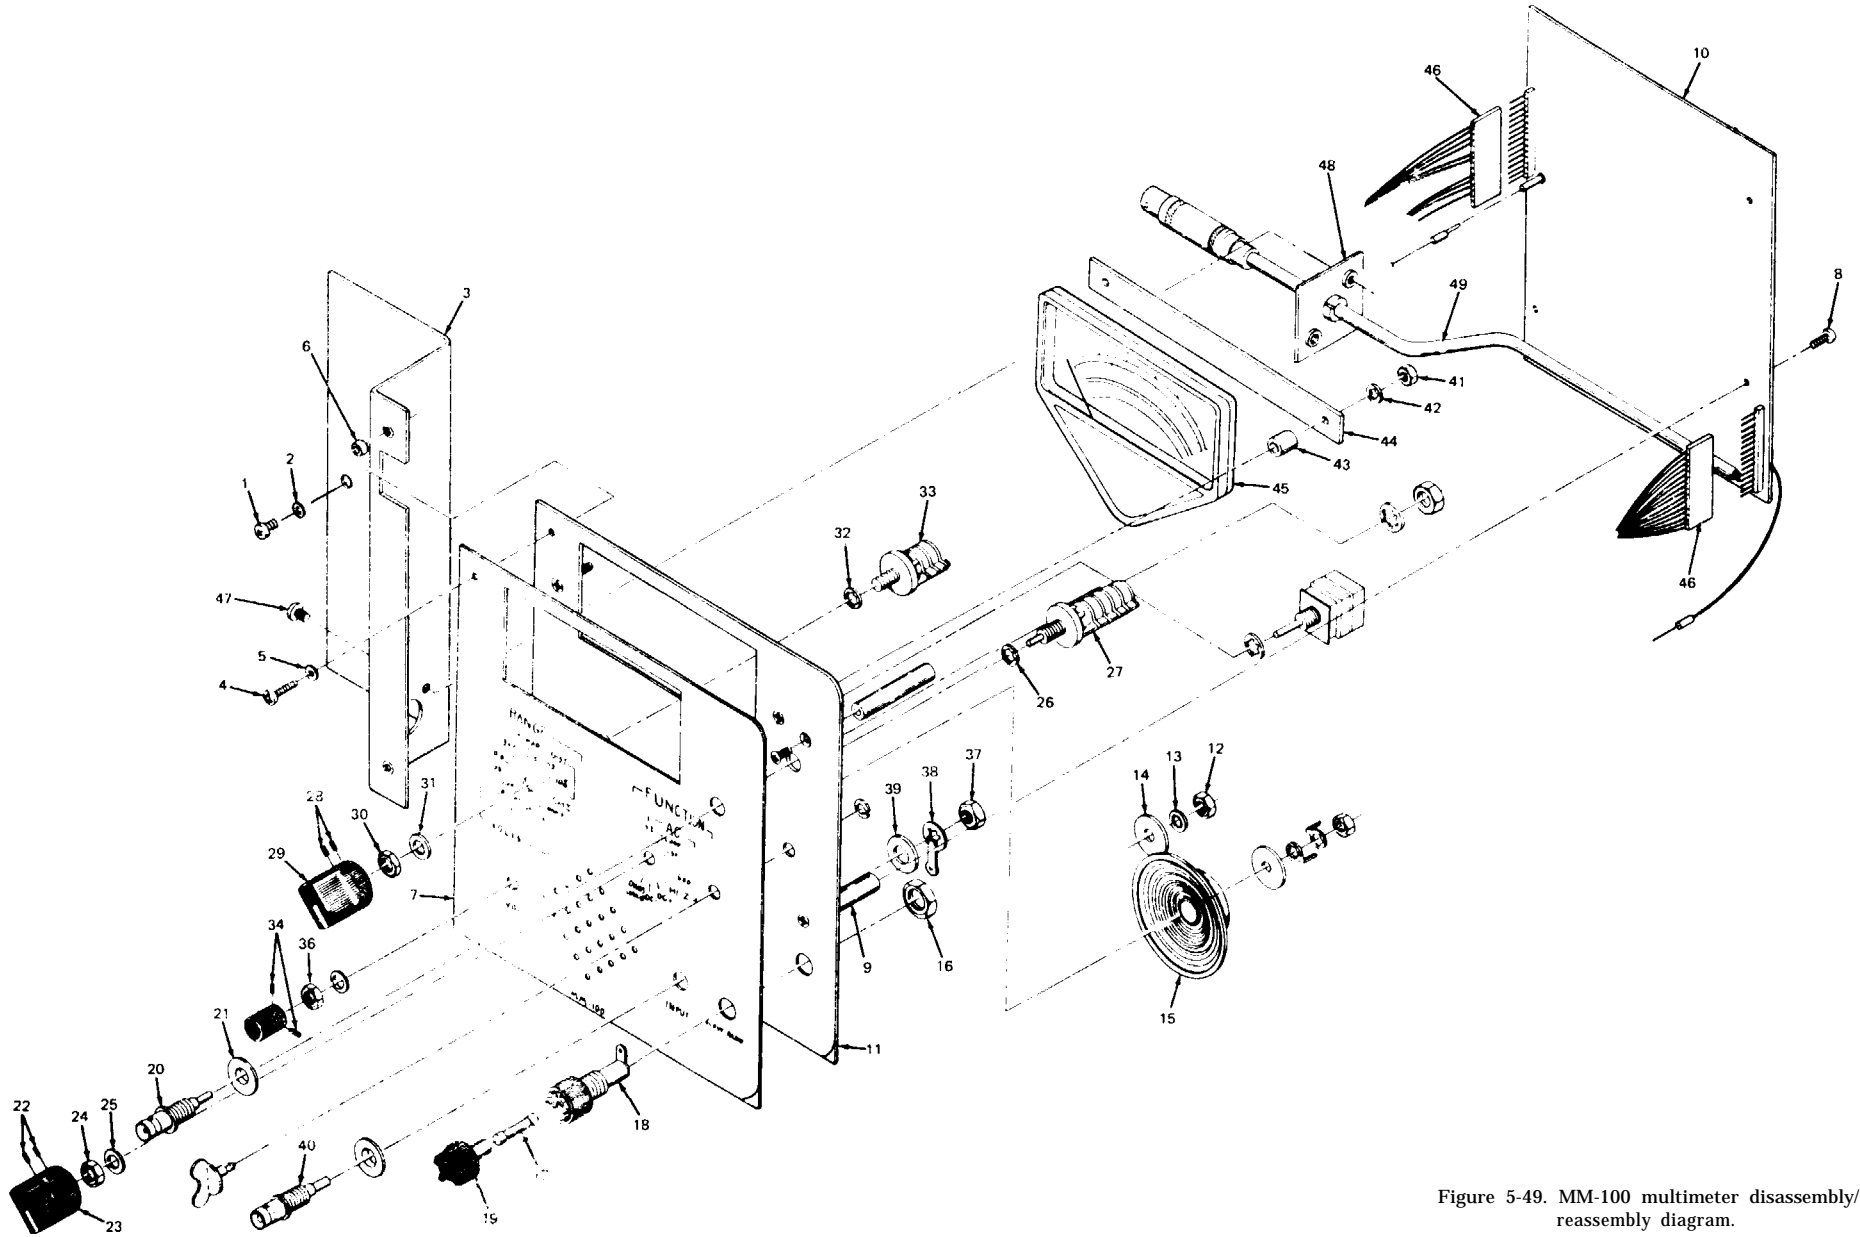

Figure 5-49. MM-100 multimeter disassembly/reassembly diagram.
- (1) Attach cable assembly (49) to PCB Assembly (10) by soldering four wires to PCB Assembly (figure 5-49).
- (2) Attach two connectors (46) to Circuit Board (10) (figure 5-49).
- (3) Attach cable retaining plate (48) to bracket (3) with two Phillips screws (47) (figure 5-49).
- (4) Attach Circuit Board (10) to stand-offs (9) of Structural Front Panel (11) with three 1/2" screws (8) (figure 5-49).
- (5) Attach bracket (3) to Front Panel (7) with two spacers (6), two flat washers (5), and two 7/16" Phillips screws (4) (figure 5-49).
- (6) Attach bracket (3) to MM-100 case with one 1/4" Phillips screw (1) and one washer (2) (figure 5-49).
- (7) Tighten 1/4-turn fastener which holds right-hand side of MM-100 Composite Assembly to MM-100 case.
- (8) Attach metal cover plate to MM-100 accessory compartment by tightening 1/4-turn fastener.
- (9) Slide MM-100 cover onto AN/GRM-114 cover, then secure by locking latches.